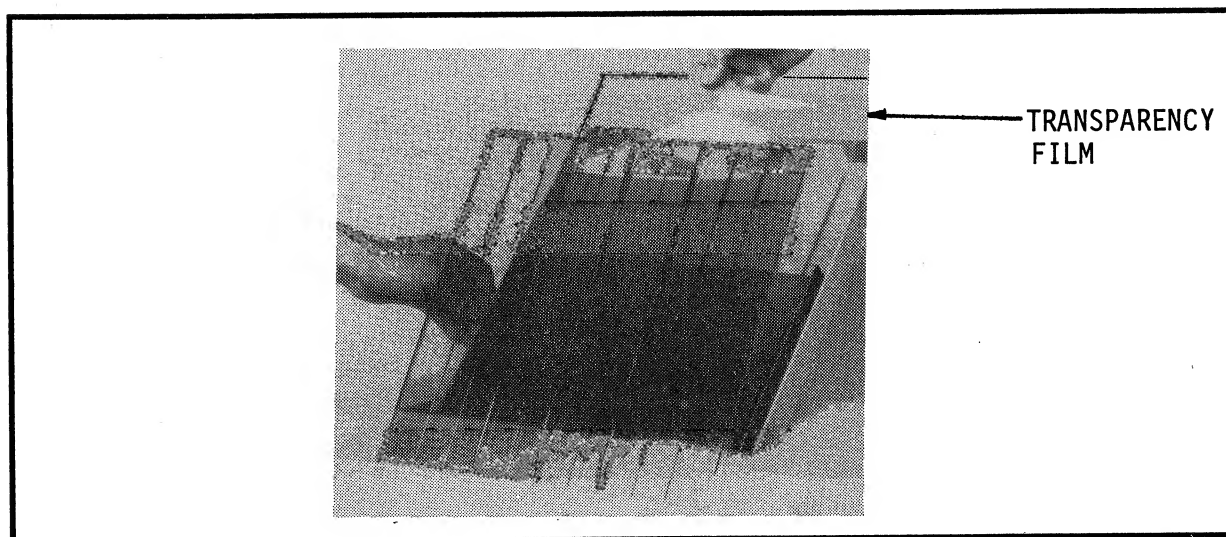

Figure 3-13.
5. Lift up the lever of the media cassette and a metal plate in the paper cassette goes down. Refer to Figure 3-13.